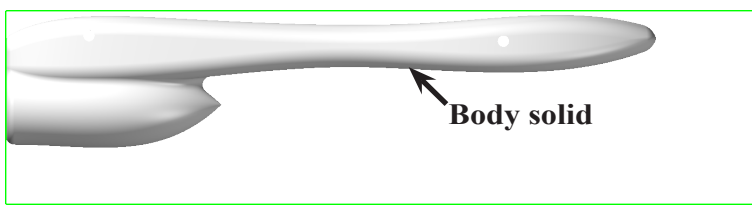

Fig. 38
Step 5. Click the **solid body**, **Fig. 38** and **ENTER** to except selection.